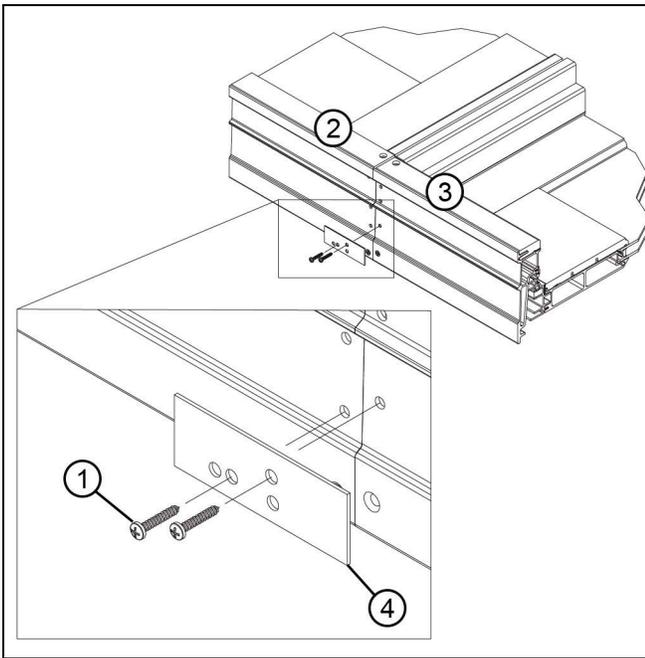
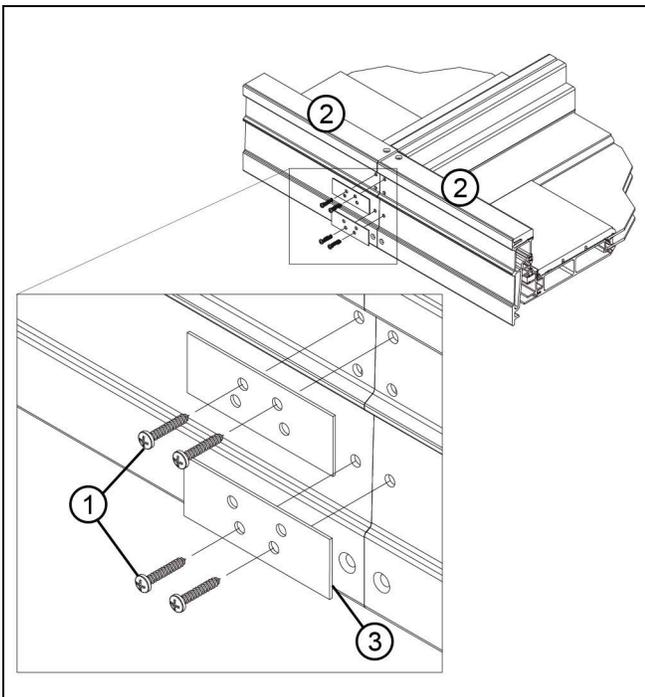
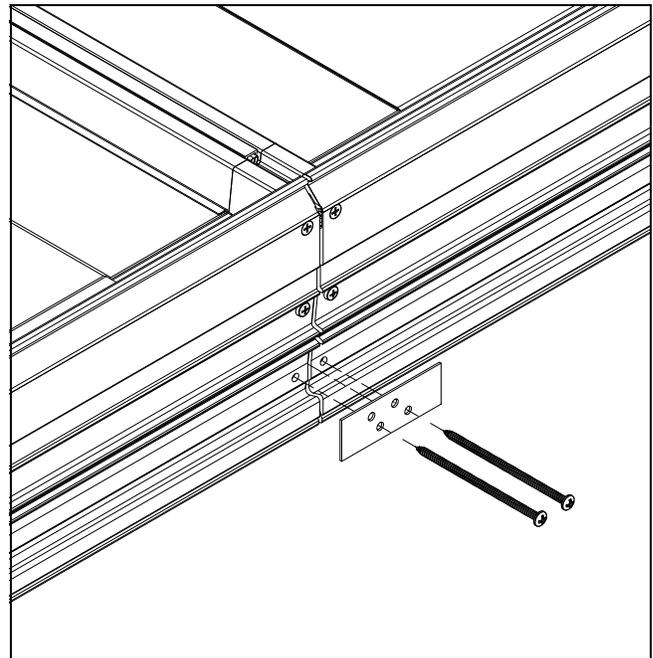

Figure 13 ELSFD to ELOFD
Figure 14 ELOFD to ELOFD
Figure 15 ELOFDG3 to ELOFDG3 Sill detail
7. If mulling a direct glaze polygon beside an inswing door, skip to step 9 on page 8. Remove the #8 x 1" Phillips pan head or 4" Phillips pan head screws from the interior side of sill on each unit. Align holes on interior sill mull bracket and reattach with screws removed previously. See Figure 11, Figure 12, Figure 13, Figure 14, or Figure 15. Skip to step 10 on page 8.